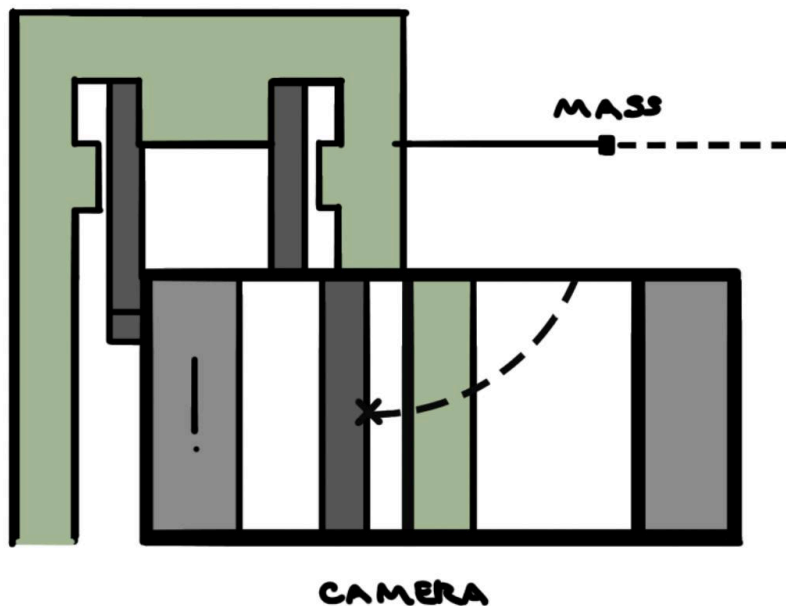

Fig. 5: Camera alignment diagram
1.11: Set up the slow-motion camera to be in plane with the swinging motion of the test pendulum, at the same height as the collision point as shown in Fig. 5.